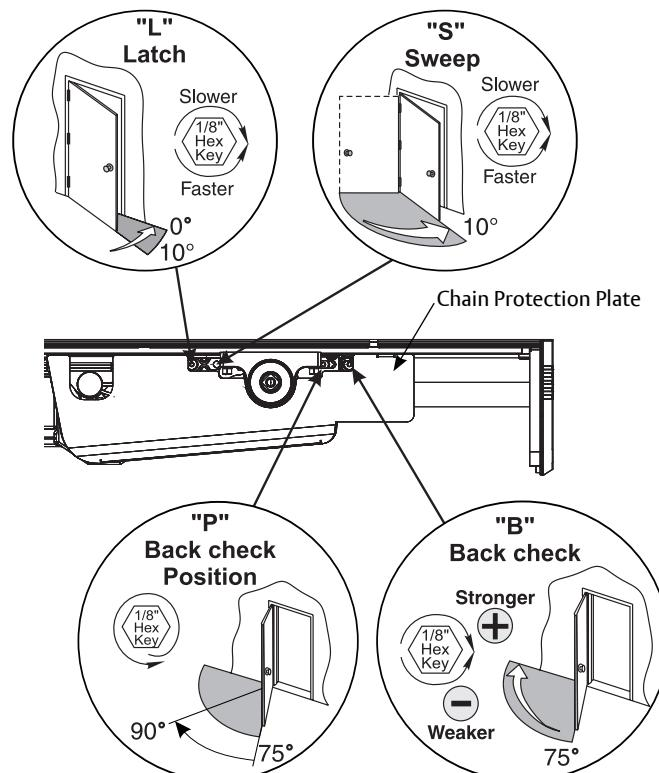

Figure 24 | View from ceiling looking down
- Chain protection plate cutouts allow access to valves. Use hex wrench to make adjustments. (Figure 24)
1. Closing Speed Controls (Figure 24)
2. Opening Cycle (Figure 24)